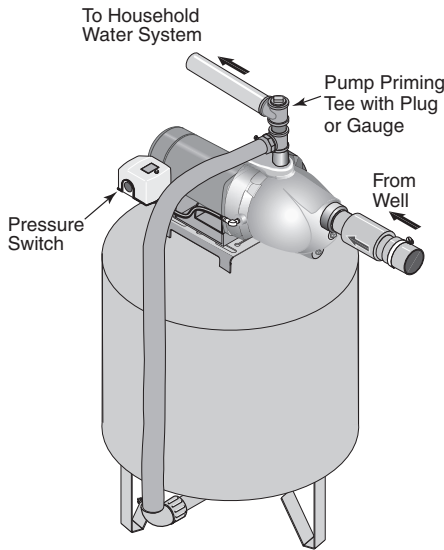

Figure 4: Pre-charged Tank Connections
## PRE-CHARGE TANK CONNECTION (Figure 4)
- Step 1. Install two tees in the pump discharge port (see Figure 4). The pipe size must be at least as large as the discharge port.